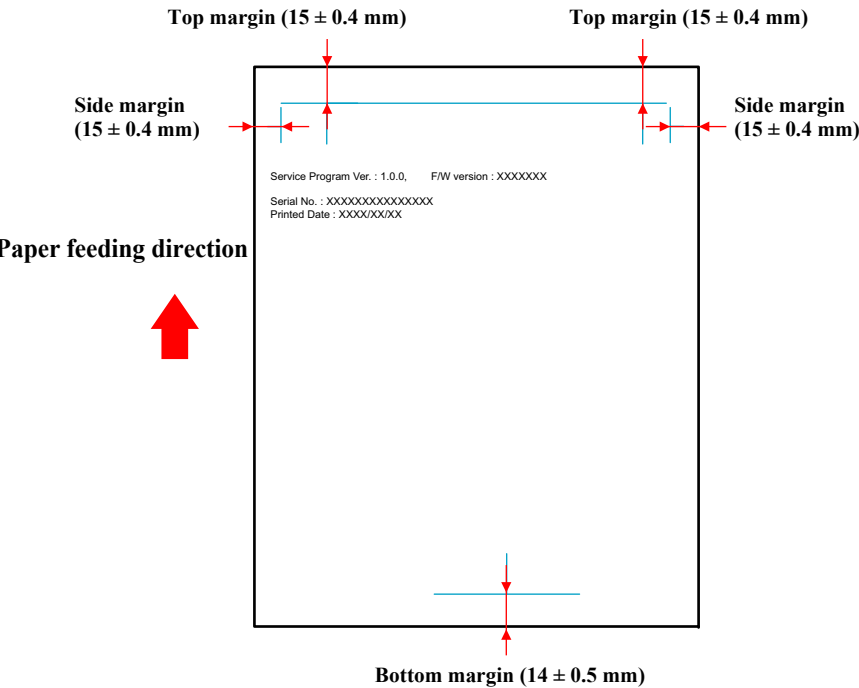

Figure 5-53. Adjustment Pattern
4. Measure the distance as shown in Figure 5-53.